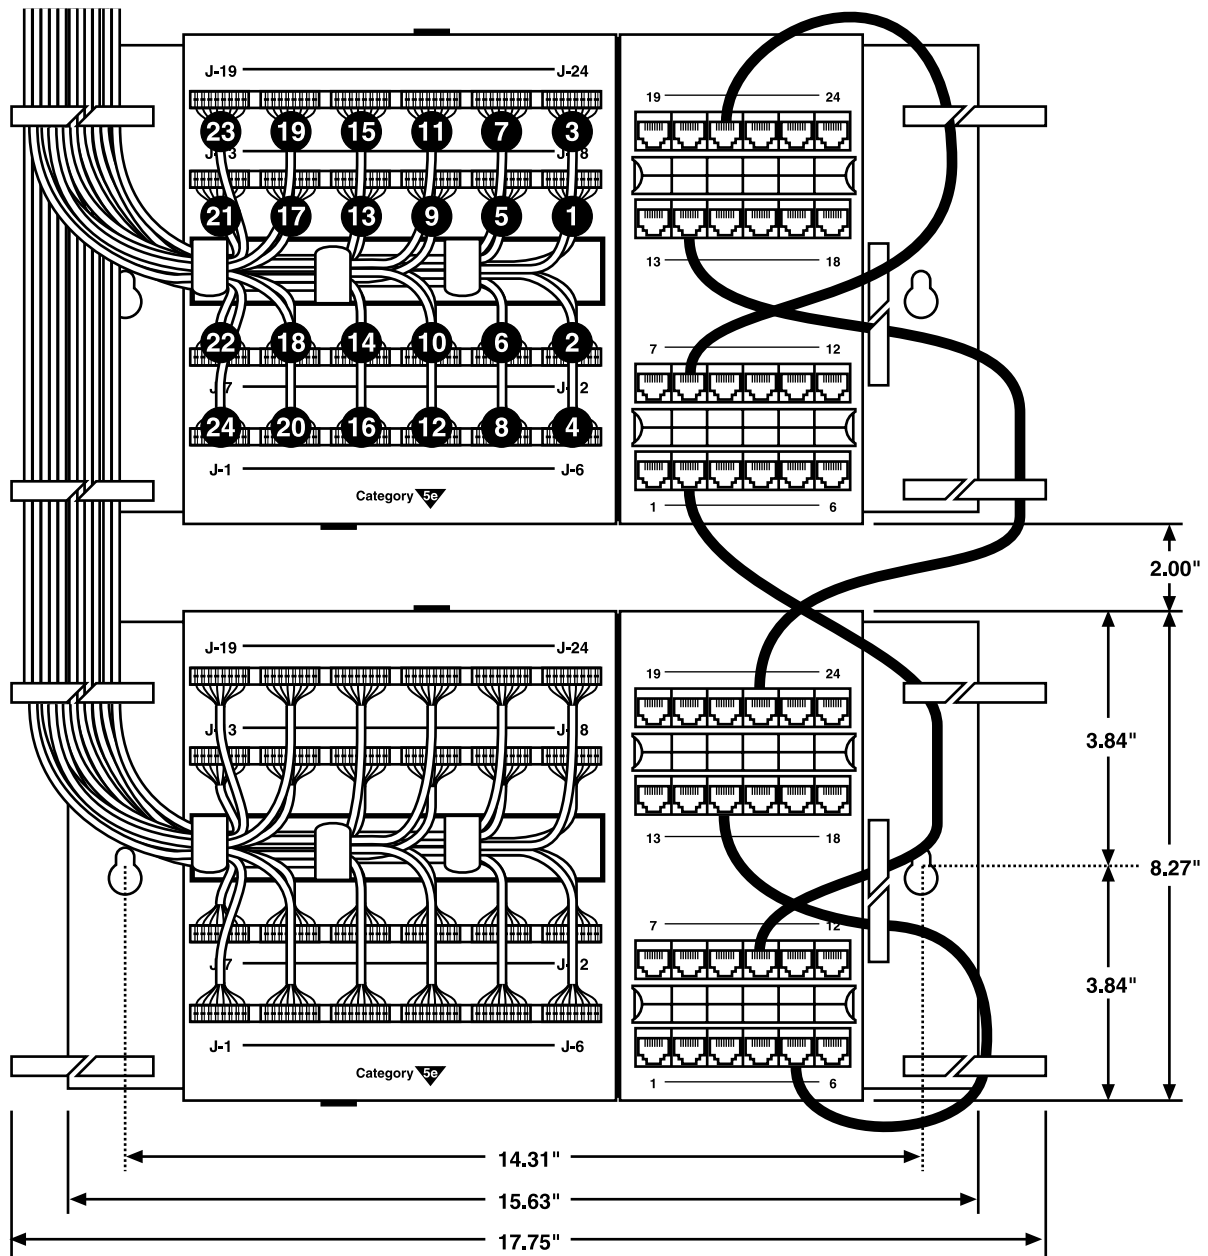

Figure 3. Suggested cable installation for the 24-port patch panels.
There are countless ways to install cable in your patch panel. Figures 3 and 4 show (1) the suggested order to terminate the 110 clips (left side of the panel) and (2) the suggested routing of line cords between panels. This setup organizes the cables so the 110 clips and RJ-45 jacks are easily accessible, even with a full patch panel.